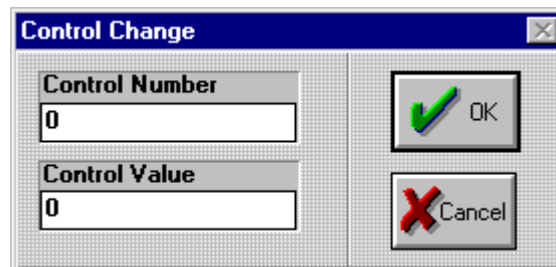

Figure 8.72. MIDI Command Example
3. Double click the **Data** field to bring up its corresponding dialogue box. Refer to Figure 8.72 for an example.